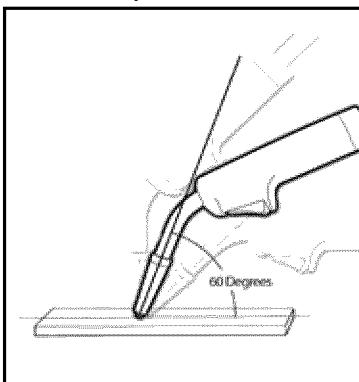

Fig. 10a
1. Angle A (Fig. 10a) is formed with the torch positioned so that the contact tip and nozzle are directly above the item to be welded. In most cases the optimum angle is where the contact tip and nozzle is 60 degrees to the item you are welding. Dropping the back of the torch handle will reduce the angle of the contact tip and nozzle to the item to be welded and will decrease penetration. Raising the back of the torch handle will increase the angle of the contact tip and nozzle to the item to be welded and will increase penetration.